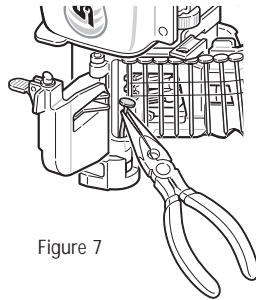

Figure 7
5. If necessary, insert a flat-blade screwdriver so that it touches the tip of the driver blade. See Figure 7. Tap the screwdriver with a hammer. The screwdriver will push the driver blade back, freeing the jam.